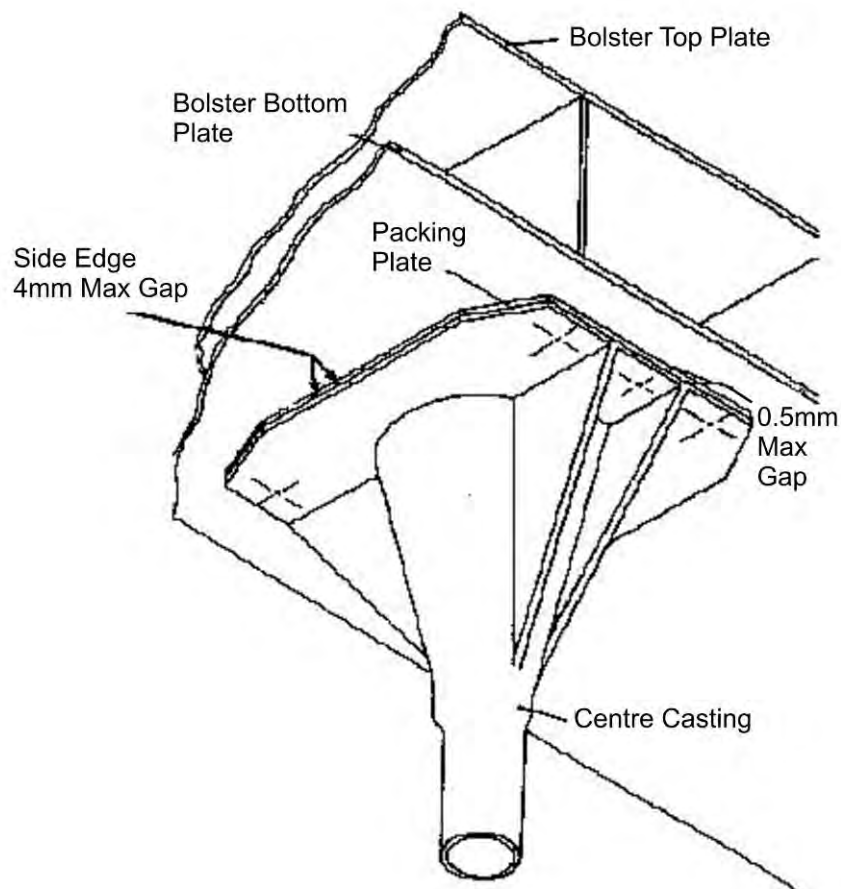

Figure 1: Inspection of Centre Casting
- Check any gaps along the edges with feeler gauges. The gaps must be less than 4mm on the side edges and less than 0.5mm between the bolts on the leading and trailing edges (Figure 1).